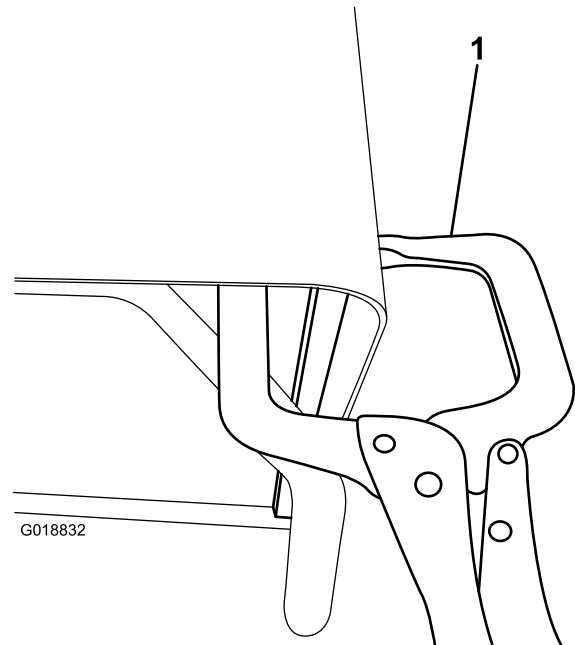

Figure 2
7. Clamp the front end of the reinforcement bar to the bed near the front corner (Figure 2).